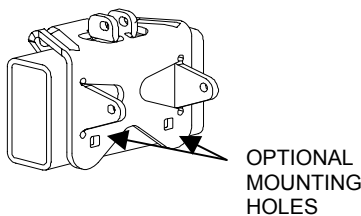

Figure 8
11. Turn 1/2-13 x 3-1/2 bolt until it contacts the frame. Then tighten 1/2 — turn with wrench. **DO NOT OVER TIGHTEN.** NOTE: Optional mounting holes are provided for trailers that do not permit use of 1/2 - 13 bolt [See figure 8]. **CONSULT TRAILER FRAME MANUFACTURER FOR APPROVAL PRIOR TO DRILLING HOLES.** 3/8" hardware is recommended whether it is self-tapping or nut and bolt.